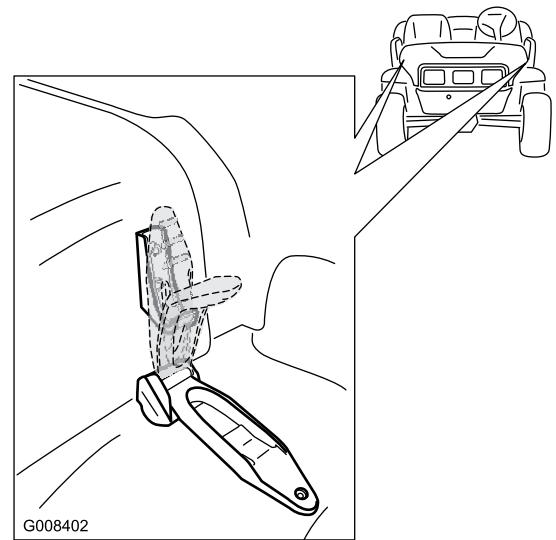

Figure 24
1. Lift up the handle of the rubber latches at each side of the hood (Figure 24).
2. Secure the hood by aligning the rubber latches onto the latch anchors at each side of the hood (Figure 24).